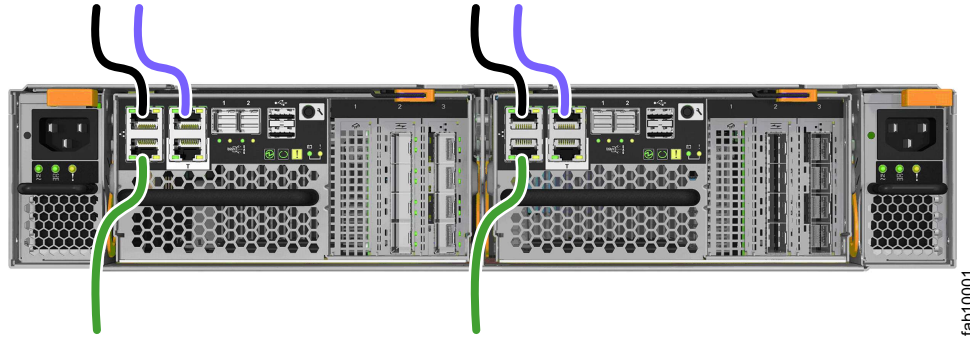

Figure 127. Connecting the Ethernet cables
1. Connect Ethernet port 1 of each node canister in the system to the IP network that will provide connection to the system management interfaces, as shown in Figure 127 on page 136. This port can also be used for iSCSI connectivity to the system by hosts on the network. Where more than one control enclosure is present in the system, ensure port 1 of every node canister is connected to the same network to provide access if the configuration node fails.
2. Optionally, connect Ethernet port 2 of each node canister in the system to a second IP network that will provide redundant connection to the system management interfaces, as shown by the lighter cable connection in Figure 127. This port can also be used for iSCSI connectivity to the system by hosts on the network. If there is more than one control enclosure in the system, ensure that port 2 of every node canister is connected to the same network to provide access if the configuration node fails.